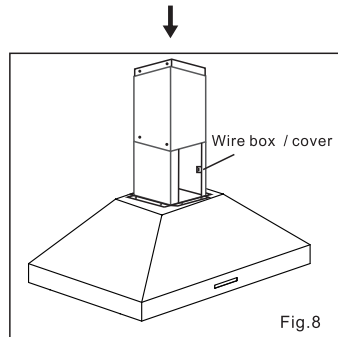

Fig.8
11. Remove the wire box cover (please refer fig 8). Remove the knockout from the wire box.